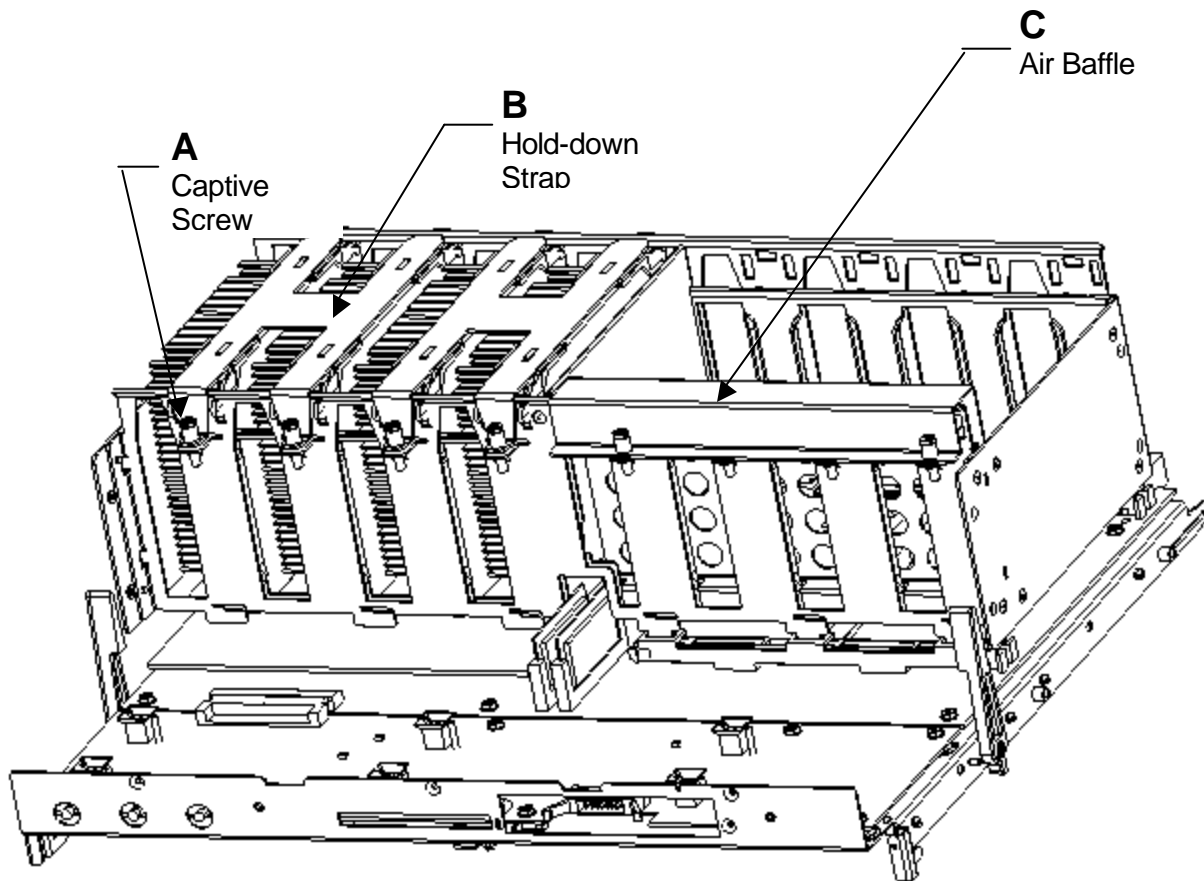

Figure 2-7: Processor Retention Mechanism
A processor/termination card pair is secured with a hold-down strap (B) that hooks into the back of the retention mechanism and is fastened at the front with two captive screws (A). (The retention strap is for a pair of processors or terminators). See Figure 2-7.